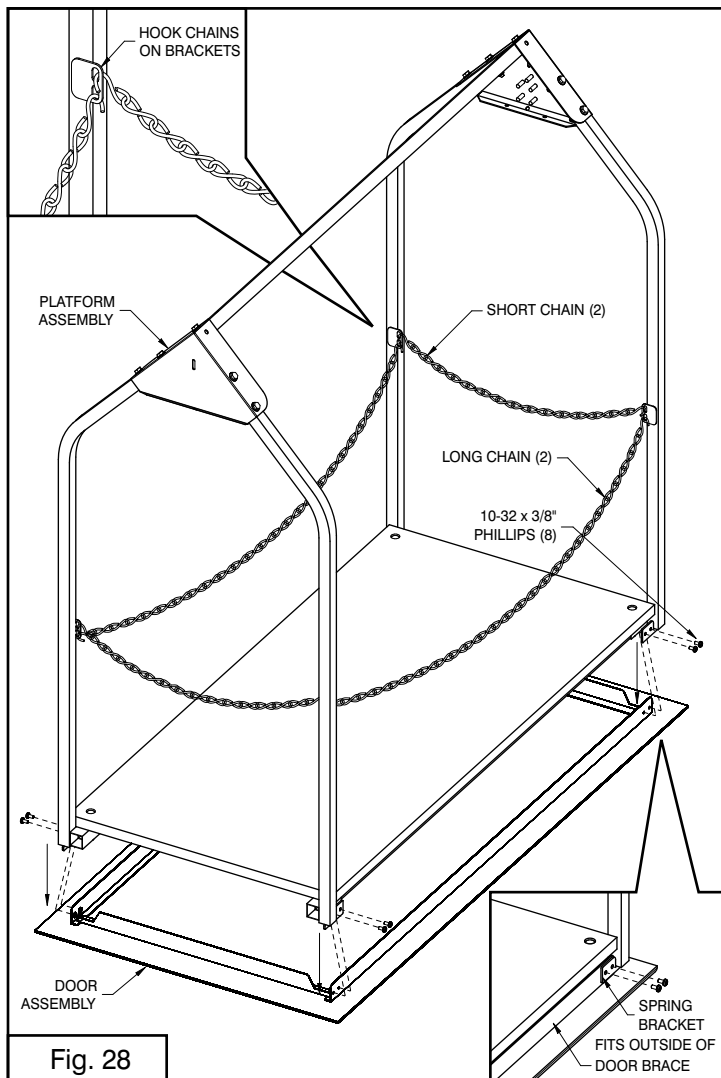

Fig. 28
**7-1.** Locate the (8) 10-32 x 3/8" screws. Lift the platform assembly onto the door assembly (Fig. 28).
**Note:** The spring brackets on the end of the platform legs fit outside of the door braces (Fig. 28 inset).
**7-3.** Locate the short and long chains. The last link on each end of each chain is open to form a hook. Hook the end of each chain onto the chain brackets on each platform leg (Fig. 28 and inset). You can open the hook further with pliers, if needed, to make it easier to hook.